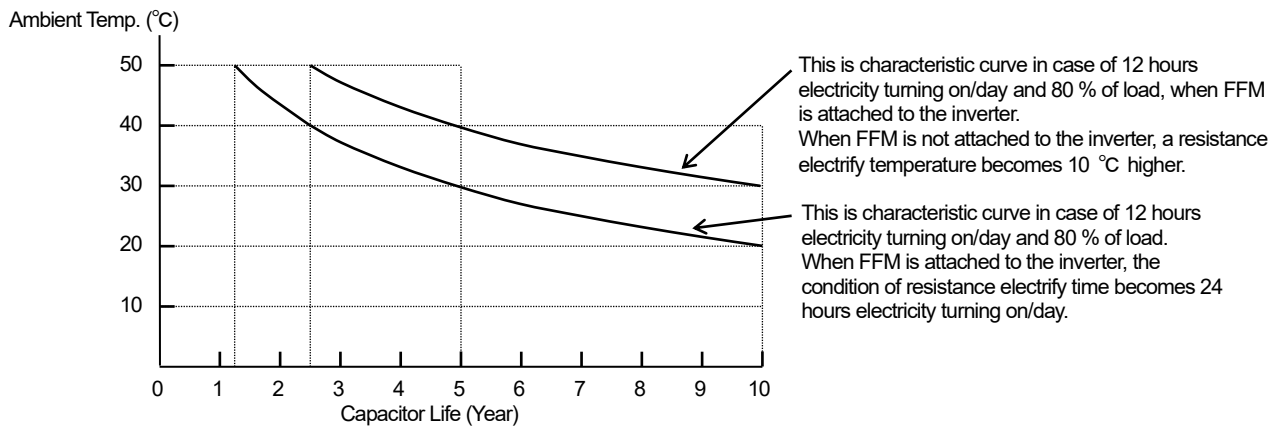

Figure 8. The Characteristic Curve of Capacitor Life
- If FFM is attached to an applicable model, the capacitor (on the control board) life doubles approximately. The detail refers to figure 8.